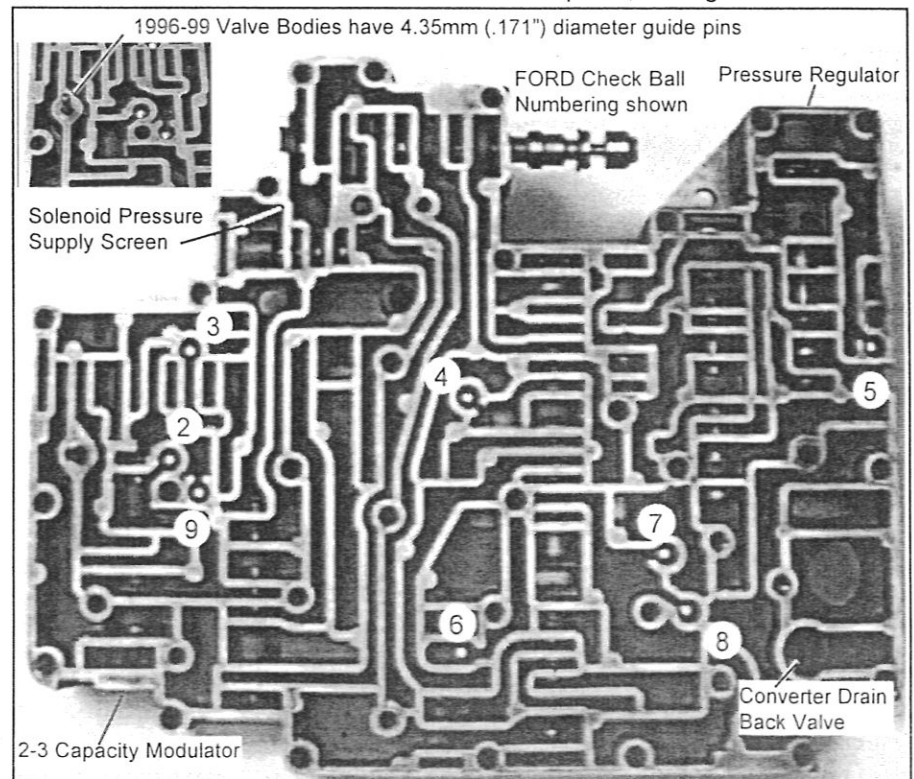

Figure 9. 1996-1999 Check Ball Placement (TYPE B Valve Body)
valve body on a clean surface with the separator plate side facing up. Make a note of the orientation of the three round reinforcement plates (**See Fig. 3**). Remove the eleven (11) 8mm hex head bolts holding the three (3) round reinforcing plates and separator plate to the valve body. Carefully lift the separator plate and gaskets off the valve body. Remove Check Balls, Solenoid Pressure Supply Screen and Converter Drain Back Valve (**See Fig. 9**). Remove all of the old separator plate gasket material from the case, valve body and separator plate surfaces. Rinse parts with solvent.
**Step 12.** Install all 8 Check Balls, Solenoid Pressure Supply Screen and Converter Drain Back Valve into valve body (See Fig. 9). Make sure the two (2) guide pin bolts are installed in the valve body. Next, place the separator plate with gaskets on the valve body and install the three (3) circular reinforcement plates and eleven (11) 8mm hex head bolts. Torque the bolts to 9-11 Nm (80-100 lb\*in).